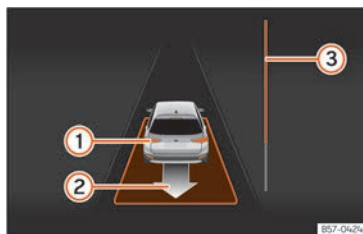

Fig. 166 On the instrument panel display: driving off from perpendicular parking.
- Reverse until the continuous ParkPilot signal sounds; **OR:** reverse until the instrument panel display shows the driving indication. The progress bar >>> Fig. 166 ③ indicates the distance to cover.
- Press the brake pedal until the parking assist system completes the steering wheel turns; **OR:** press the brake pedal until the symbol ⑤ goes out on the instrument panel screen.